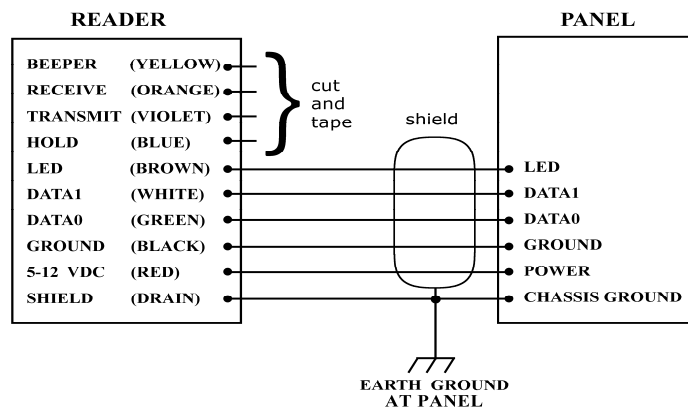

FIGURE 2: Wiring Diagram (Wiegand - see step C.4, page 1)
4. Connect the reader's Ground, Data-0, Data-1, LED (if used), silver Drain wires, and *last +DC* power (see Figure 2). Connect the yellow wire only if it is used for Beeper control by the panel. Connect the blue wire only if it is used for Hold control by the panel. **Do not connect** the orange and violet wires to anything. Insulate all unused wires **separately**; do not clip off the wires at the shield.
The number of conductors depends upon use of the KP-6840's LED, Beeper, and Hold features. See Figure 2.